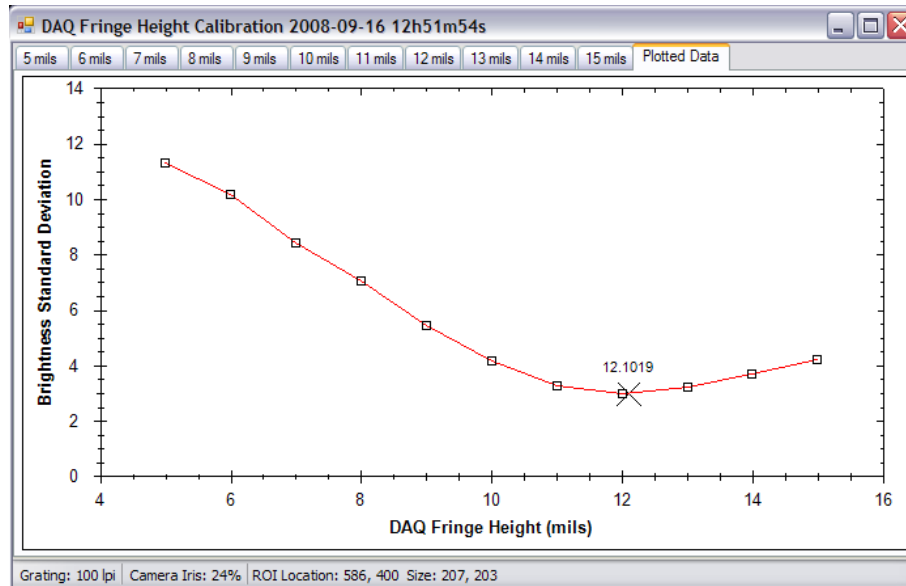

Figure 2.15 DAQ Fringe Height Cal Dialog
- Right click to select **Start Calibration...** from the Camera window context menu. A series of images is taken with different step heights to determine the best calibrated phase step distance, or **DAQ Fringe Height**. While the images are being taken a dialog (see **Figure 2.15**) pops up showing the captured images and a plot of the intensity standard deviation for each step height trial.